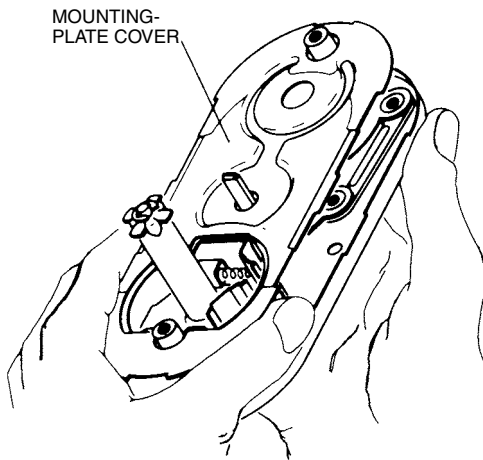

Figure 13.87 Changing hand, Step 18.
18. Replace the mounting-plate cover (Fig. 13.87).